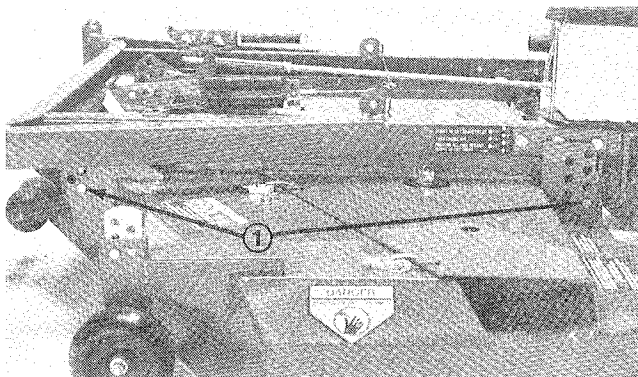

Figure 18
2. Raise height-of-cut to the 3½" (89 mm) or 4 in. (102 mm) position (Fig. 18): refer to Adjusting Height-Of-Cut, page 6.
- A. Cutting units usually operated at 1 to 2 in. (25 to 51 mm) height-of-cut should have the low side of the cutting unit raised. Remove the klip ring securing castor wheel on low end (Fig. 18) and remove castor assembly.
- B. Transfer one thrust washer from top side of castor shaft to lower side, install castor assembly and compare blade height of all blades; refer to items 3 through 7. Continue adding thrust washers if height still does not meet requirements.
- C. If cutting unit is operated at 2 to 4 in. (51 to 102 mm) height-of-cut, lower the high side of cutting unit. Remove klip ring of castor at high end of unit and remove castor assembly (Fig. 18).
- D. Transfer one thrust washer from lower side of castor shaft to top side, install assembly and compare blade height of all blades; refer to items 3 through 7. Repeat procedure if height still does not meet requirements.